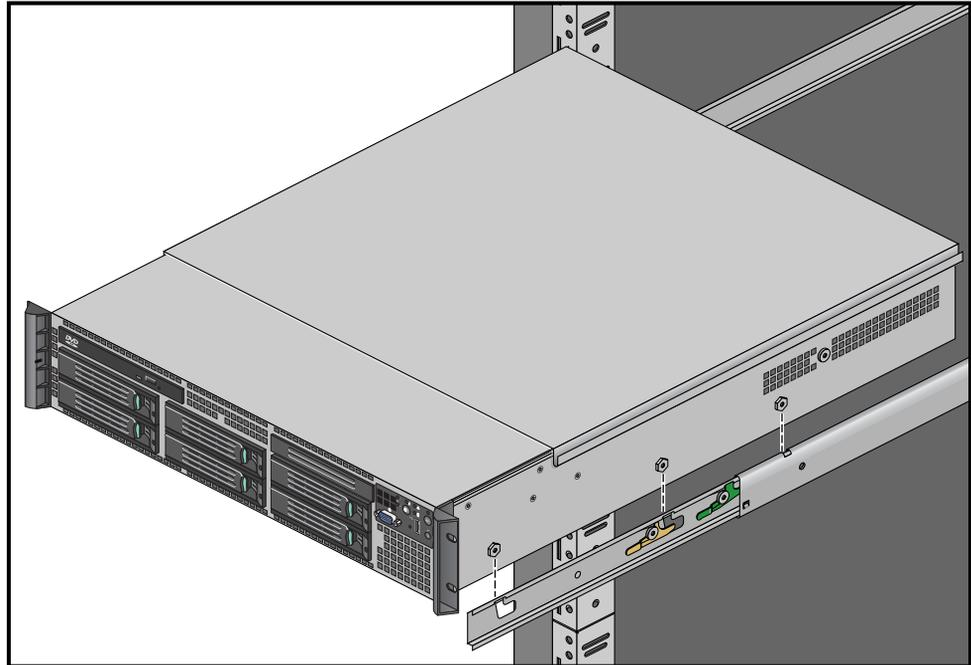

Figure 1-16 Data Manager Slide Rail Mounting Stud Positions
- Using two people, align and insert the data manager's mounting studs into the component mounting channels on the two slide rails, see Figure 1-16 for an example.